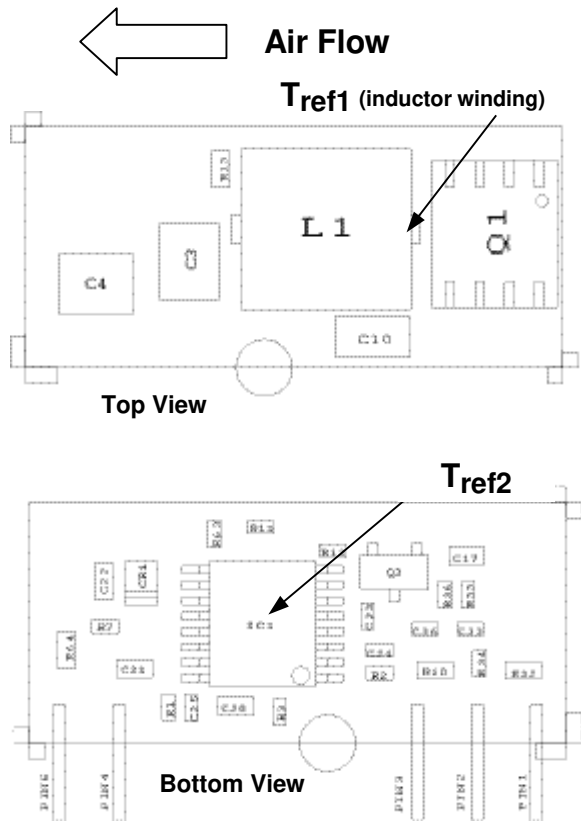
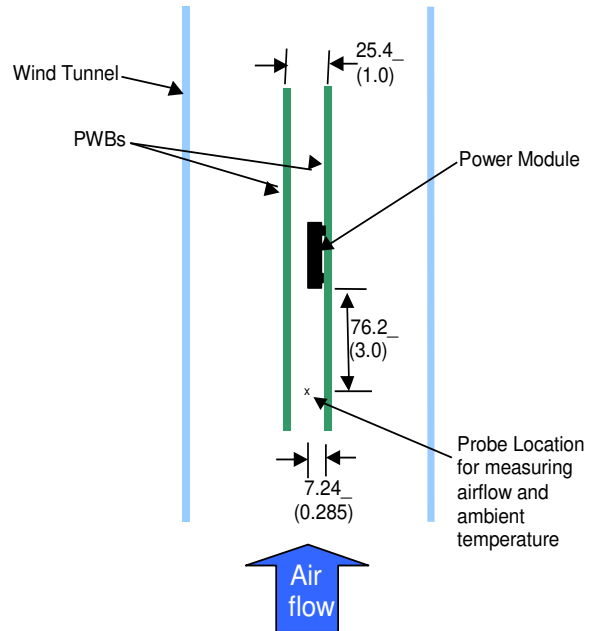

Figure 32. T_{ref} Temperature measurement location.
Figure 33. Thermal Test Set-up.
Considerations include ambient temperature, airflow, module power dissipation, and the need for increased reliability. A reduction in the operating temperature of the module will result in an increase in reliability. The thermal data presented here is based on physical measurements taken in a wind tunnel. The test set-up is shown in Figure 33. Note that the airflow is parallel to the long axis of the module as shown in figure 32. The derating data applies to airflow in either direction of the module’s long axis.
The thermal reference point, T_{ref1} used in the specifications of thermal derating curves is shown in Figure 32. For reliable operation this temperature should not exceed 125°C. The output power of the module should not exceed the rated power of the module ($V_{o,set} \times I_{o,max}$).